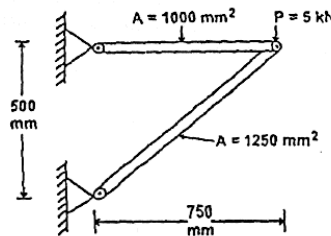

Fig. 12 (b)
- (b) The loading and other parameters for a two bar truss element is shown in fig 12 (b). Determine
- the element stiffness matrix for each element (4)
- global stiffness matrix (3)
- nodal displacements (3)
- reaction forces (3)
- the stresses induced in the elements, Assume $E = 200 \text{ GPa}$. (3)